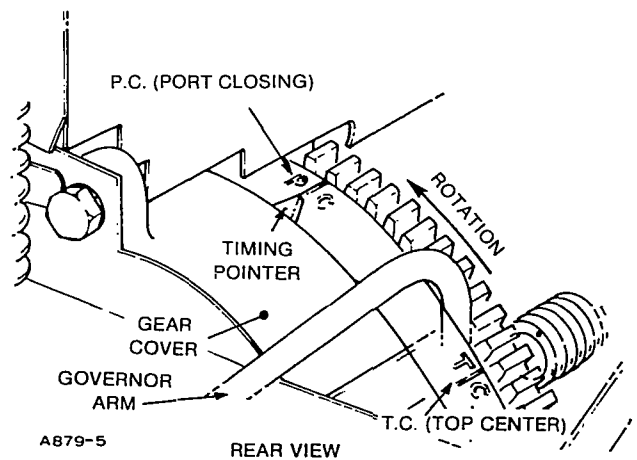

FIGURE 16. PORT CLOSING POSITION
5. Rotate flywheel clockwise (when facing front of engine [Figure 16] to point where PC mark on flywheel is about 15 degrees (1.25 to 1.50 inch [32-38 mm]) before timing pointer on gear cover (compression stroke of No. 1 cylinder).
Timing is correct if port closing occurs when PC mark on flywheel aligns with timing pointer (Figure 16). If the marks do not line up, timing is either early or late and the timing button must be changed.
1. Turn engine in direction of rotation (clockwise when viewed from the front of engine) until number one cylinder is on a compression stroke and the PC mark on flywheel lines up with timing pointer on gearcase (Figure 16). Rotation clockwise also takes out all gear backlash in that direction.